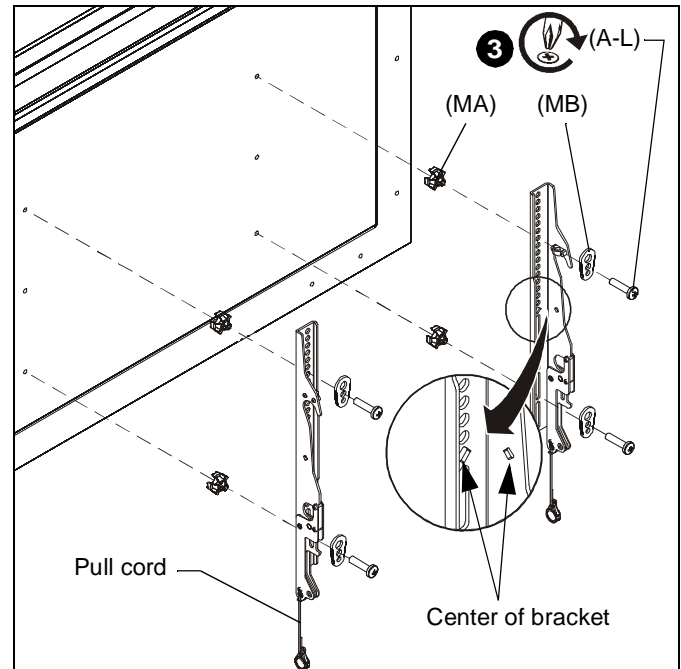

Figure 12
2. Align the center of the removed brackets with center of screen. (See Figure 12)
3. Select correct screws, nesting spacers (if necessary) and universal washers from the hardware bag (A-M) and attach brackets to back of screen. (See Figure 12)